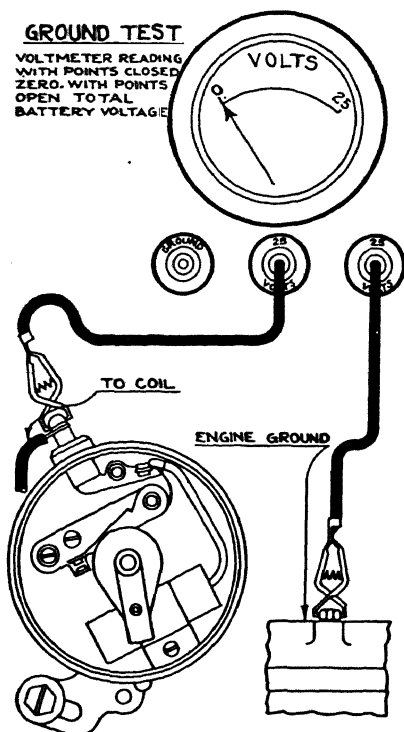

Fig. 16. Voltmeter Connections Showing Ground Test
Remove 25-volt test lead from edge of distributor housing and connect to engine, Fig. 16. With points closed, any reading on the voltmeter indicates poorly grounded distributor. Before removing leads, shake the distributor housing and note if this affects the voltmeter reading. Voltmeter may show zero when distributor is in one position and a slight reading when shaken. This condition must be corrected to obtain satisfactory distributor performance with the car on the road. Remove the test lead from the breaker arm and connect to distributor terminal on the outside of the distributor housing. Leave other test lead connected to the engine. (In case electrolock is used, connect first lead to distributor terminal on coil.) With points closed, voltmeter should read 0, unless testing through electrolock in which case reading not to exceed  $\frac{1}{16}$  volt is permissible. Any
**Ground Test.** Connect voltmeter test leads to 25-volt terminals on panel, Fig. 16. Connect other ends of test leads to distributor-housing terminal and to ground on engine. The voltmeter reading